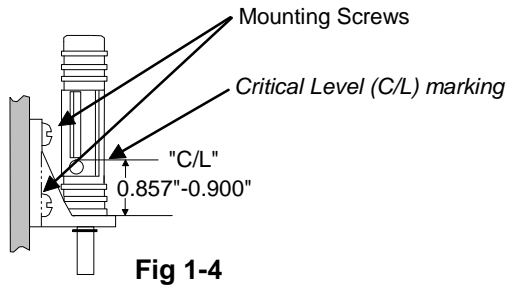

Fig 1-4
4. The AG110-002 must be installed with the "C/L" line above the sink's rim, sump, floor drain, floor grate, or standpipe where the discharge tubing is terminated. The AG110-002 must be installed vertically. Secure AG110-002 with provided mounting screws (See Fig 1-4).